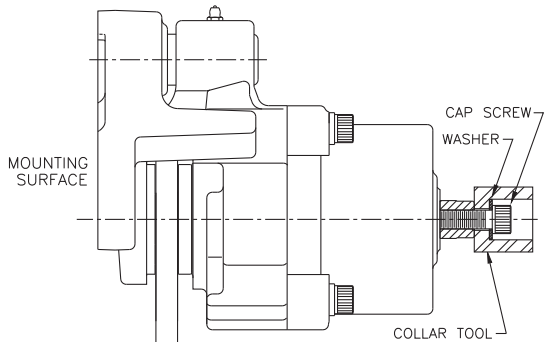

FIGURE 3
- Remove cap screw, washer, and collar tool. Rotate and reinstall collar tool as shown in Figure 3. Securely tighten cap screw.